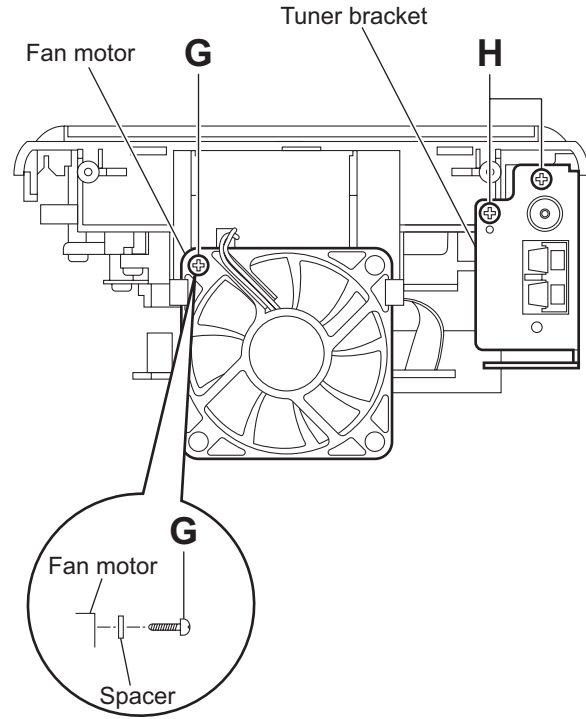

Fig.9
(See Figs.9 and 10)
- Remove the rear cover, side panels(L)/(R) and top cover assembly.
- From the back side of the top cover assembly, remove the screw **G** attaching the fan motor. (See Fig.9.)
When attaching the screw **G**, attach the spacer with it. (See Fig.9.)
- From the back side of the top cover assembly, remove the two screws **H** attaching the tuner bracket. (See Fig.9.)